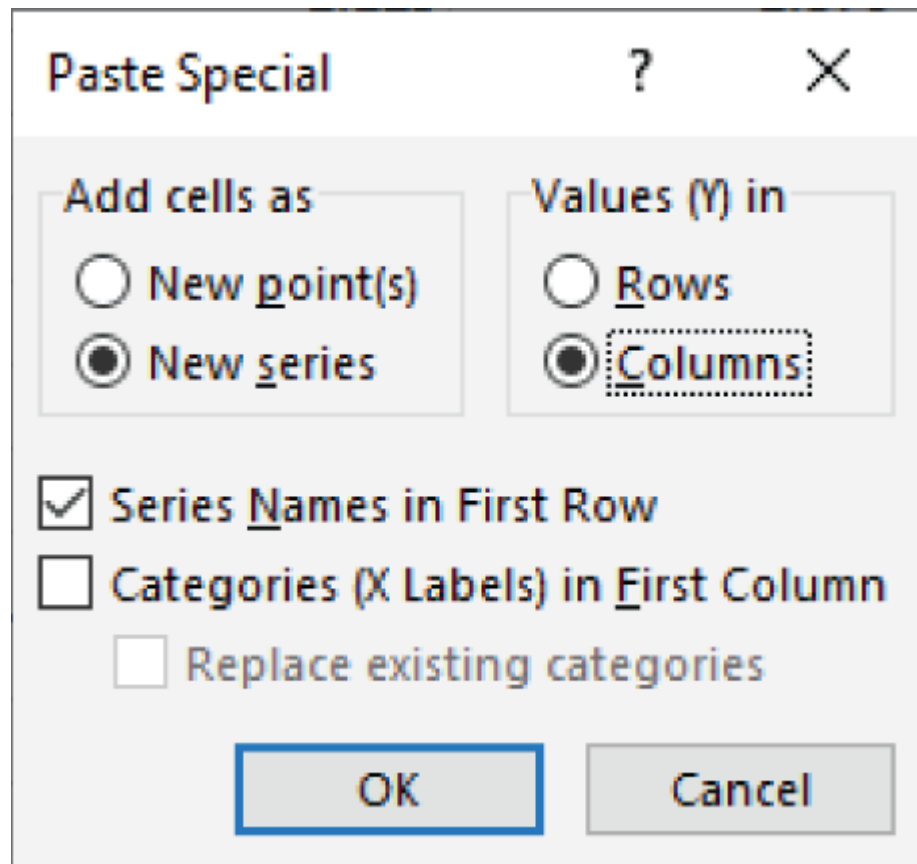

Figure 9.31: The Paste Special dialog
3. On the Paste Special dialog, shown in Figure 9.31, choose New Series and click OK.